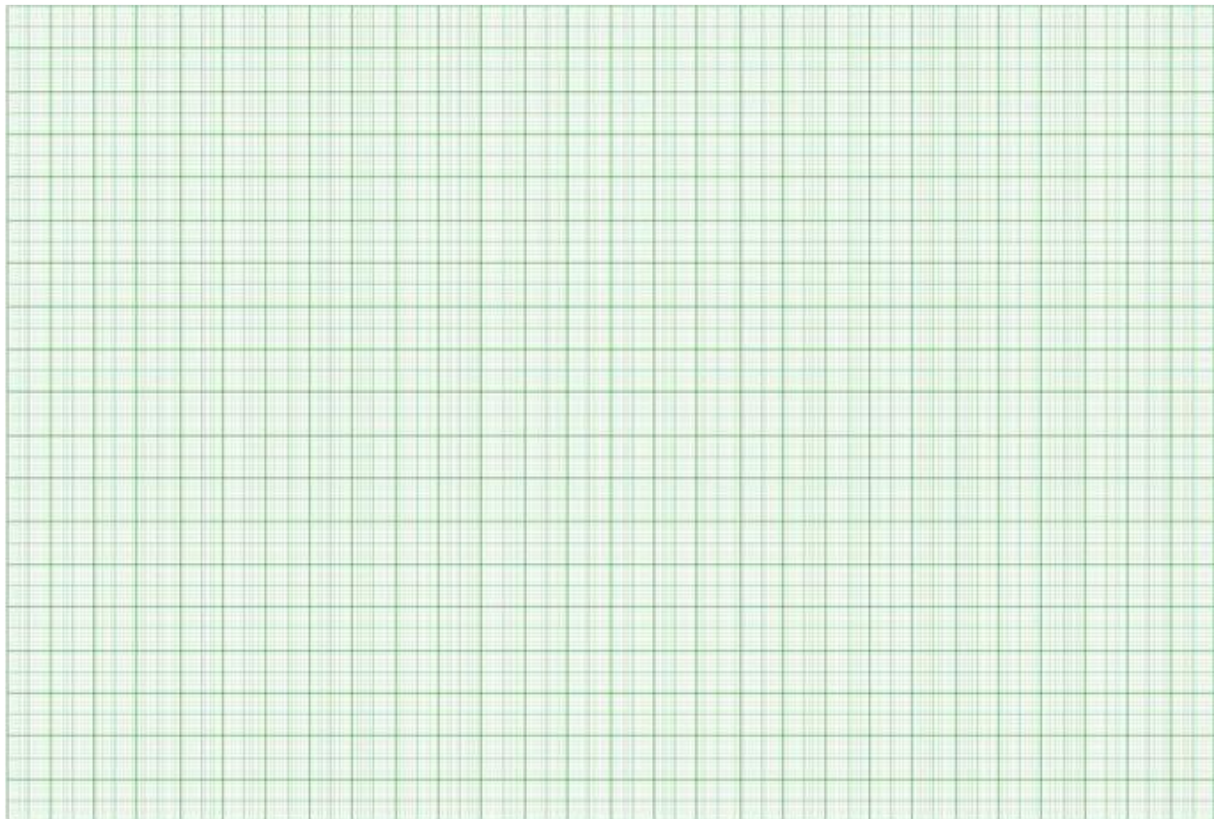

Figure 3.5 Graph paper for voltage - current graph
- With the help of the data you have obtained, draw the I-V graph for all three resistors (Figure 3.5) and calculate the R resistance values from the graph using the Ohm's law.